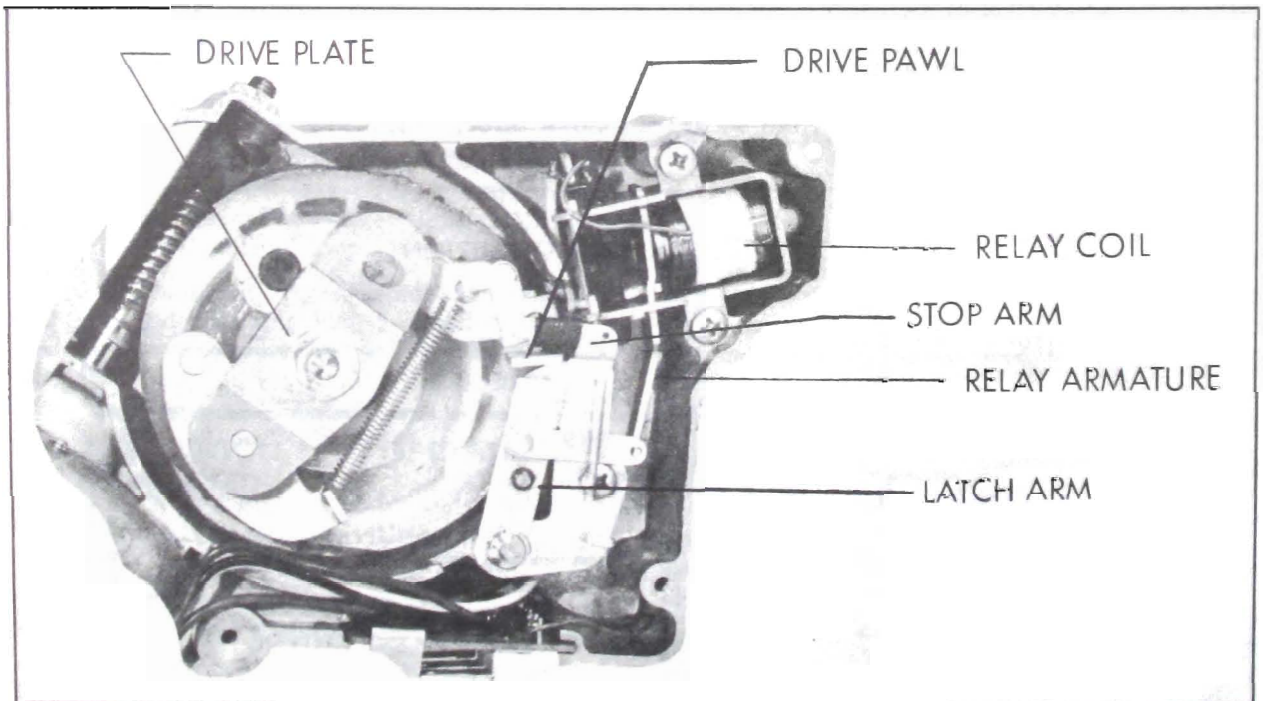

Figure 1-19—Wiper Motor Off
a. Motor Switch Turned to "Lo" or "Hi"-- Previous to the switch being turned to either "Lo" or "Hi," the drive pawl is in contact with the stop arm. See Figure 1-19. As the switch is turned on, the relay coil is energized. This moves the armature into the relay and the latch arm out of the path of the drive pawl. At the same time, the motor circuit is also completed.